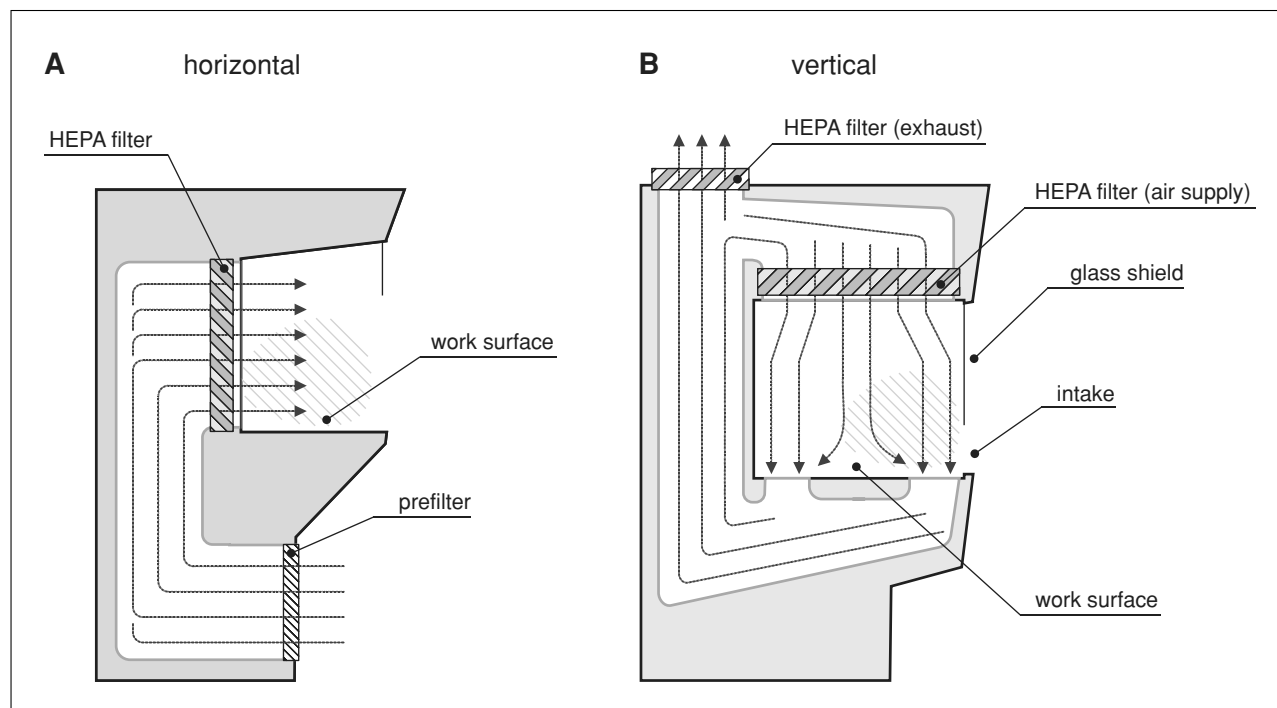

Figure A.4D.3 Laminar flow hoods. Hoods with vertical (A) or horizontal (B) flow are the two major types of laminar flow units. See text for details.
3. If the initial flame is low on oxygen, it is bushy orange in appearance and is not very hot (Fig. A.4D.2A,B). Open the air control vent until the central blue cone of the flame forms and a slight buzzing sound is audible (Fig. A.4D.2C). If the flame is too small, gradually increase both the supply of gas and air flow to the burner. The hottest part of the flame is just above the central blue cone.
Figure A.4D.2 Adjusting the Bunsen burner and heating an inoculation loop. A lighted Bunsen burner with its air holes closed produces a cool, yellow-orange flame (A). It is not particularly useful for heating things. The more the air holes are open, the more blue and fierce the flame becomes (B,C). A properly adjusted Bunsen burner gives a blue flame containing two cones: an outer, nonluminous pale blue cone and an inner, deeper blue cone (D). There is no combustion inside the central cone. Temperatures in the part of the flame just above the central inner cone (where the inoculating loop is heated) approach 1500°C. See text for more details.
An additional layer of security against contamination is the use of a laminar flow hood. Although several modifications of the two major flow hood design types (horizontal and vertical) are commercially available (see Fig. A.4D.3), the vertical hood design is probably the most commonly encountered nowadays. The major design concepts of both types of hoods are similar. Room air is taken into the unit and passed through a prefilter to remove gross contaminants (lint, dust, etc.). The air is subsequently compressed and channeled through the HEPA filter, which removes nearly all of the bacteria from the air. Purified air flows out over the entire work surface in par-